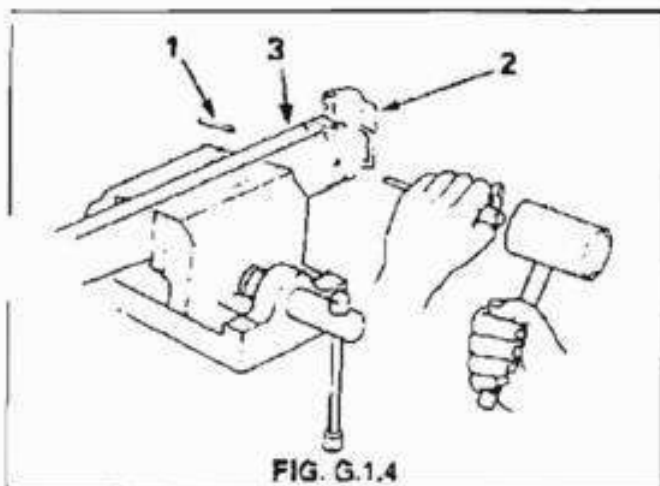

FIG. G.1.4
3. Clamp receiver in a vice. Drive out fixing pin securing bracket butt to receiver using a 5.8 mm diameter drift and hammer, and remove bracket butt. If difficulty is experienced in breaking the loctite seal between bracket butt and receiver, heat the assembly gradually until bracket butt can be removed. See Fig. G.1.4.